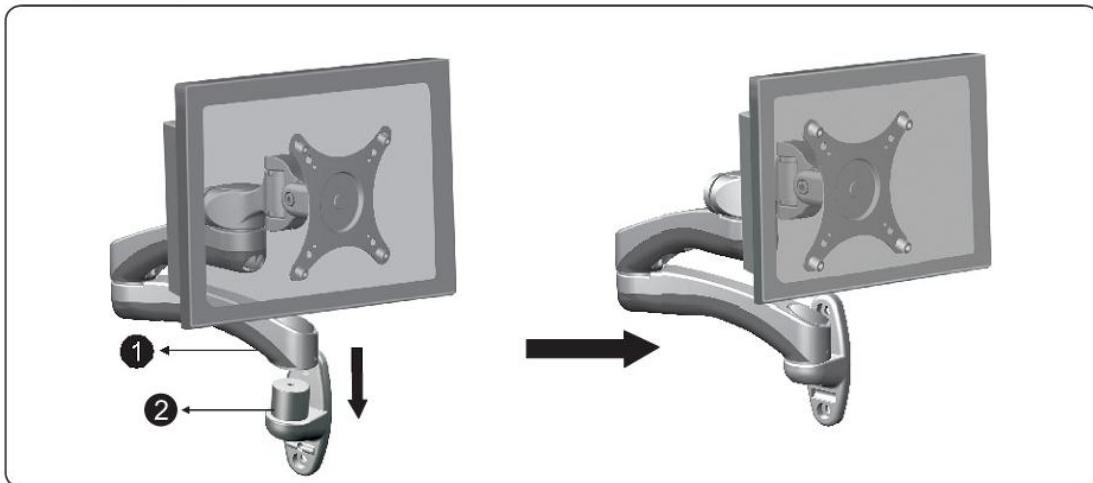

Figure 3-1
1. Attach the Wall Mount LCD Arm Assembly **(1)** to Wall Plate **(2)** by placing the LCD Arm Assembly downward, onto the top of the Wall Plate pole (**See Figure 3-1**).